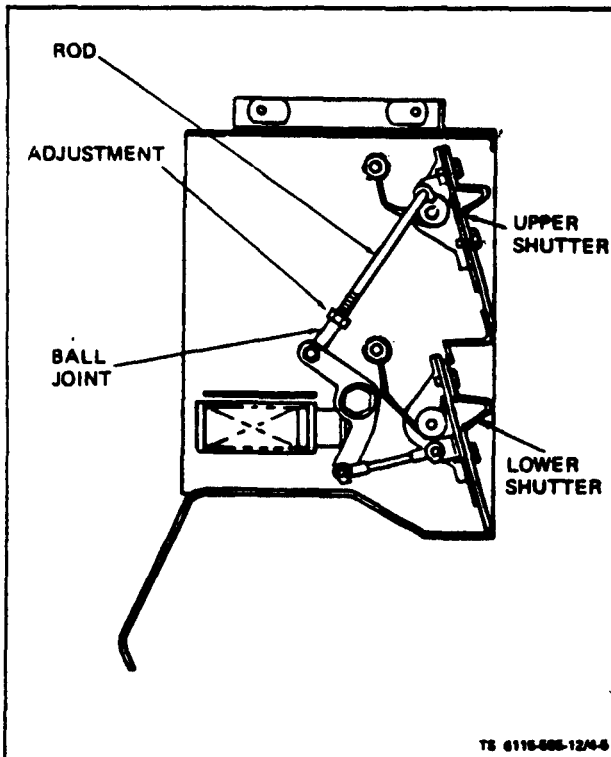

Figure 4-5. Adjusting Shutters
(1) Shutter (see figure 4-5). Disconnect rod from upper shutter. Adjust ball joint until upper shutter closes tightly on lower shutter when lower shutter is held closed. Re-attach rod to upper shutter.